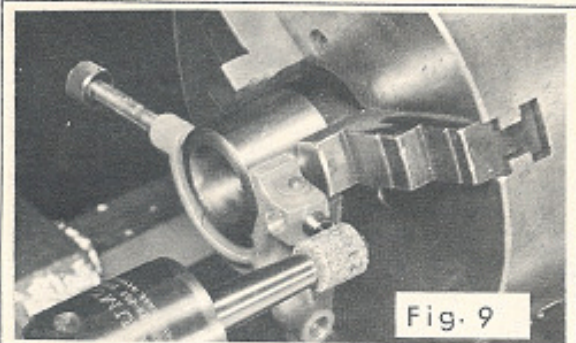
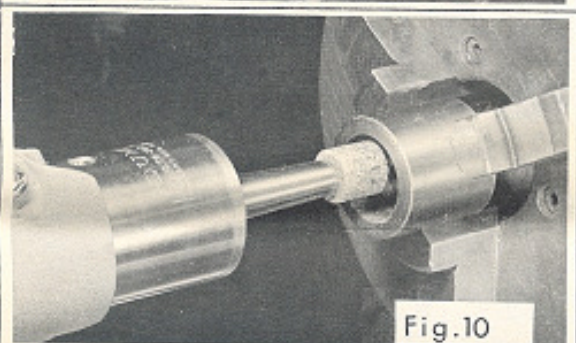

Fig. 9
Fig. 10
Internal grinding utilizes the collet chuck which screws onto the threaded wheel end of the spindle after the wheel and collars have been removed. Mounted wheels with 1/8" shanks can be used by inserting shank in chuck and tightening sleeve securely. Wheel size should be from 2/3 to 3/4 the size of hole being ground, Fig. 10.
**DRESSING A WHEEL -- INTERNAL GRINDING** -- To dress a wheel for internal grinding, clamp the diamond dresser onto the workpiece or a piece of stock chucked in the lathe. The diamond will normally face away from the operator toward the back of the lathe as illustrated in Fig. 9. With the grinder running, make several very light passes over the nib using the hand wheel to traverse. The dressed face should contact your workpiece when grinding internally as shown in Fig. 10. THE SIDE ON WHICH THE WHEEL IS DRESSED IS ALWAYS THE CONTACT FACE.